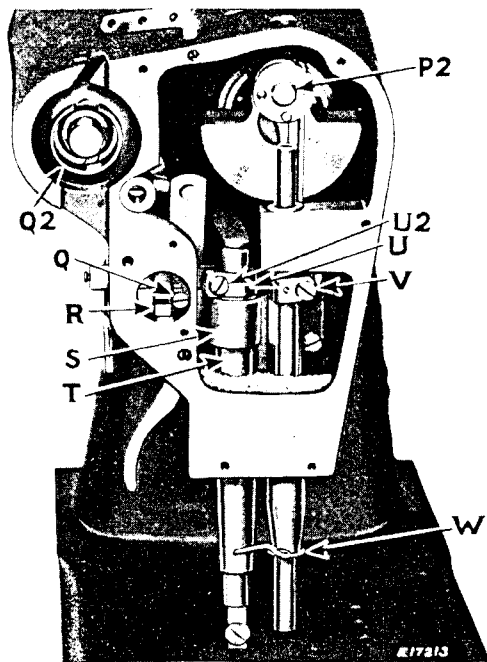

Fig. 23. Face Plate Removed
The presser bar bushing (T, Fig. 23) should be set so that its top is about  $\frac{1}{32}$  inch below the top of the lifting bracket (S) when the bracket is all the way down.
To align the presser foot with the needle, loosen screw (U2, Fig. 23) and move presser foot to the desired position.
The tension releaser (R, Fig. 23) automatically releases the spring pressure on the tension discs when the presser bar is raised. The releaser may be moved up or down to release the tension earlier or later, by loosening the screw (Q).
When the needle bar is at its highest position, the lower timing mark on the needle bar, which is about  $\frac{1}{2}$  inch from its lower end, should be just visible at the lower end of the needle bar bushing (W, Fig. 23). If the needle bar is not correctly set, loosen the screw (V, Fig. 23) in the needle bar connecting stud and move the needle bar to the correct position.